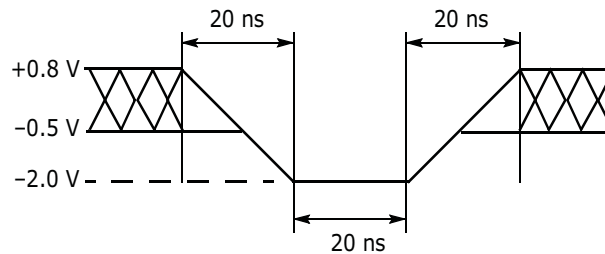
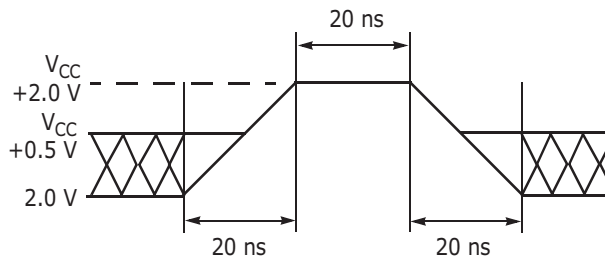

Figure 13.1 Maximum Negative Overshoot Waveform
Figure 13.2 Maximum Positive Overshoot Waveform
1. Minimum DC voltage on input or I/Os is -0.5 V. During voltage transitions, inputs or I/Os may undershoot V_{SS} to -2.0 V for periods of up to 20 ns. See Figure 13.1. Maximum DC voltage on input or I/Os is $V_{CC} + 0.5$ V. During voltage transitions outputs may overshoot to $V_{CC} + 2.0$ V for periods up to 20 ns. See Figure 13.2.
2. Minimum DC input voltage on pin WP#ACC is -0.5 V. During voltage transitions, WP#ACC may overshoot V_{SS} to 2.0 V for periods of up to 20 ns. See Figure 13.1. Maximum DC voltage on pin WP#ACC is +9.5 V, which may overshoot to 10.5 V for periods up to 20 ns.